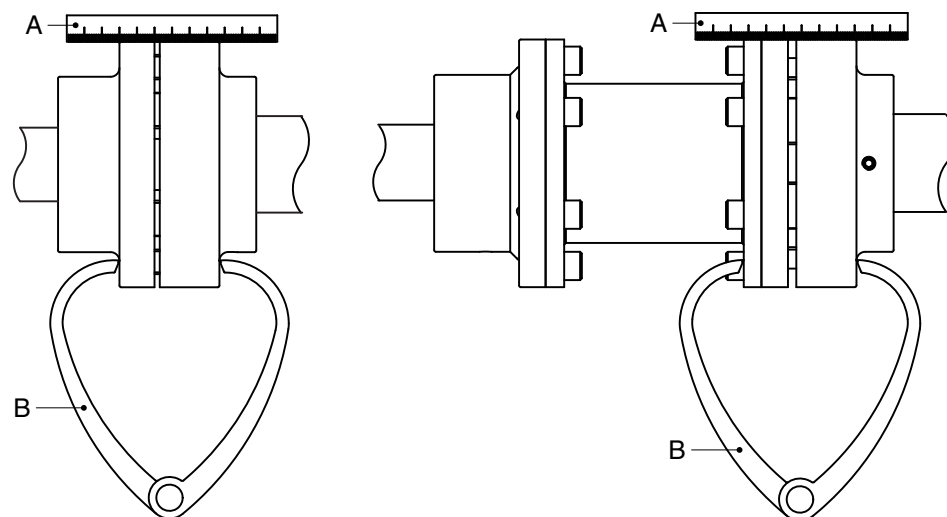

Figure 3: *Aligning the coupling by means of a ruler and a pair of outside calipers.*
- 1 Place a ruler (A) on the coupling. Place or remove as many copper shims as is necessary to bring the electric motor to the correct height so that the straight edge touches both coupling halves over the entire length, see figure 3.
- 3 Check the alignment once again using a pair of external callipers (B) at 2 diametrical opposite points on the sides of the coupling halves, see figure 3.